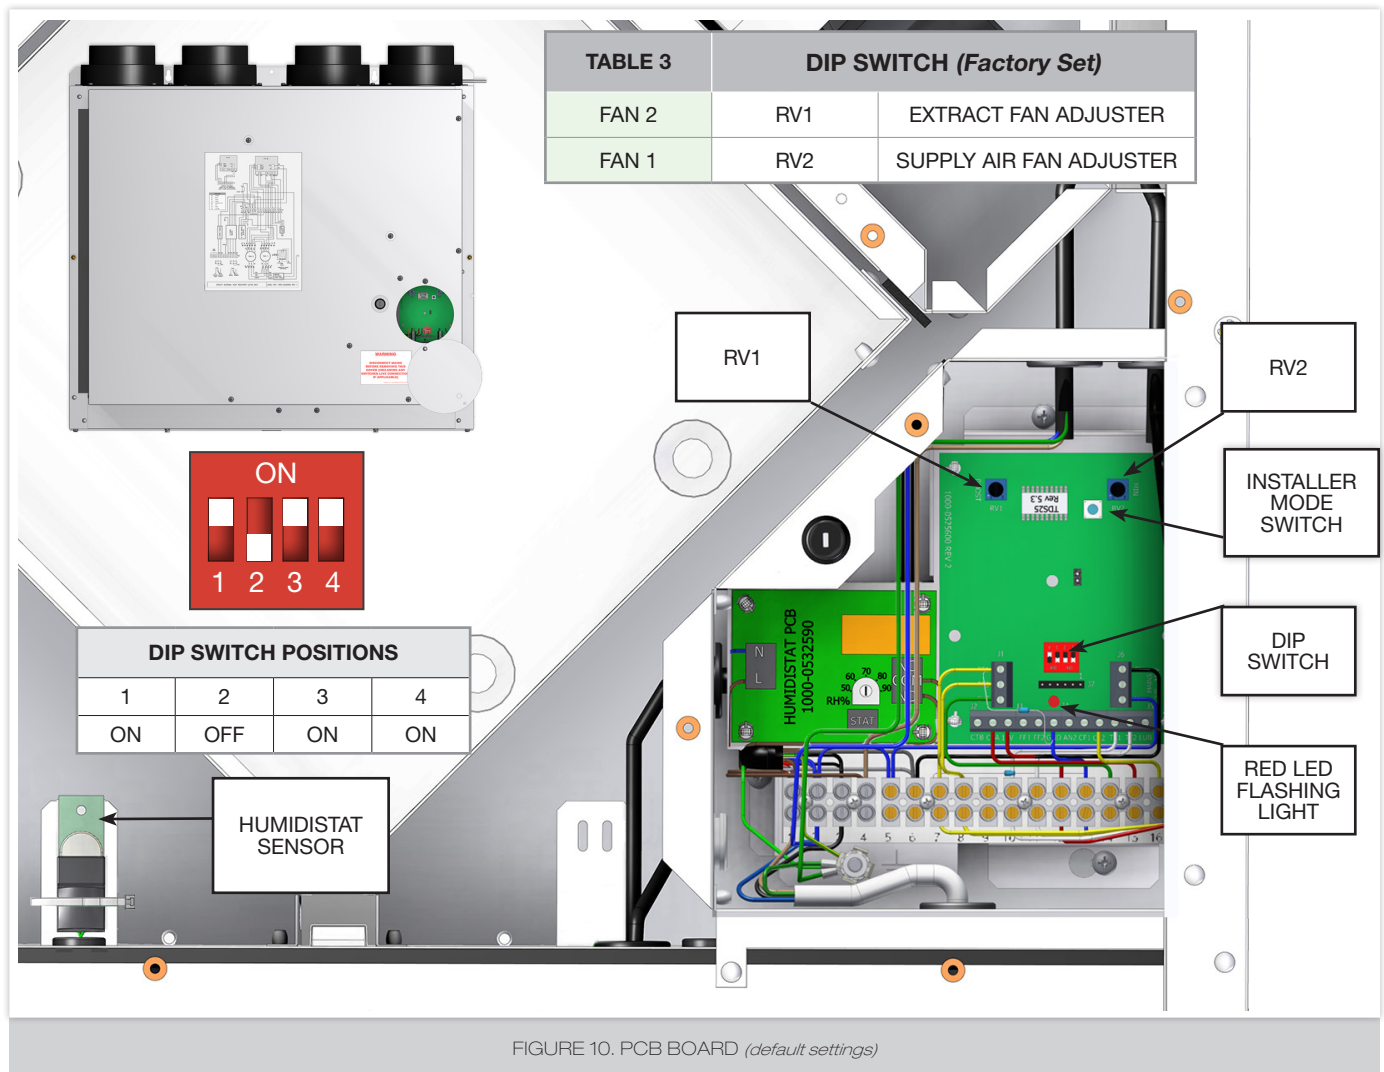

FIGURE 10. PCB BOARD (default settings)
- 12.7.3 To adjust the TRICKLE setting, turn RV1 (extract fan) and RV2 (supply air fan) clockwise to increase the airflow rate and anti-clockwise to decrease the airflow rate. See Figure 10.